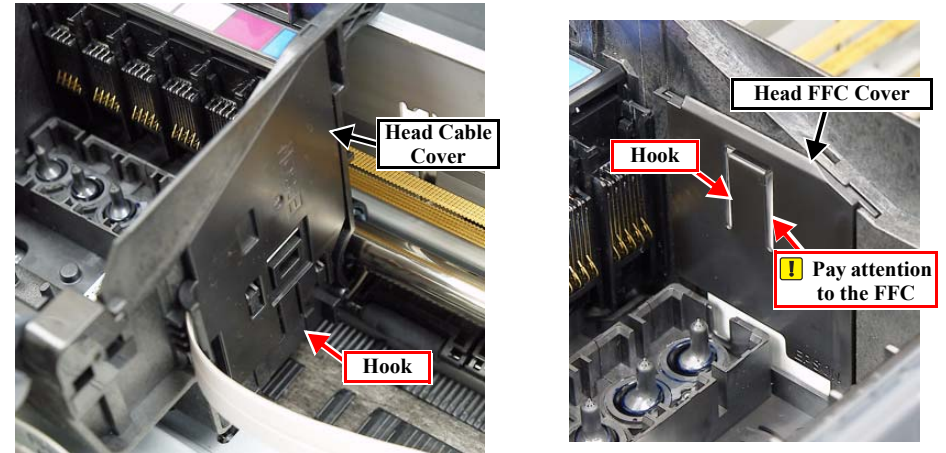

Figure 4-32. Removing the FFC Cover
8. At the right side of the Carriage Assy, release the hook of the Head Cable Cover, and remove the Head Cable Cover by sliding it downward. (Fig. 4-32)
9. Insert a slotted screwdriver under the hook of the Head FFC Cover, and move it upward and remove the Head FFC Cover. (Fig. 4-32)
10. Disconnect the FFC from the CSIC Connector Holder Assy. (Fig. 4-32)